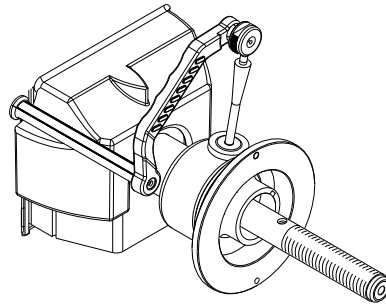

Figure 47
9. Locate the Calibration Weight. Place the calibration weight with the large end oriented on the bell collar as shown in Figure 47. Extend the SAPE arm outward and rotate the extension to just touch the end of the calibration weight as shown in Figure 47. A tone will sound and the display will change to "**BAC**" "**H**" "**POS**". Return the SAPE arm to the home position.